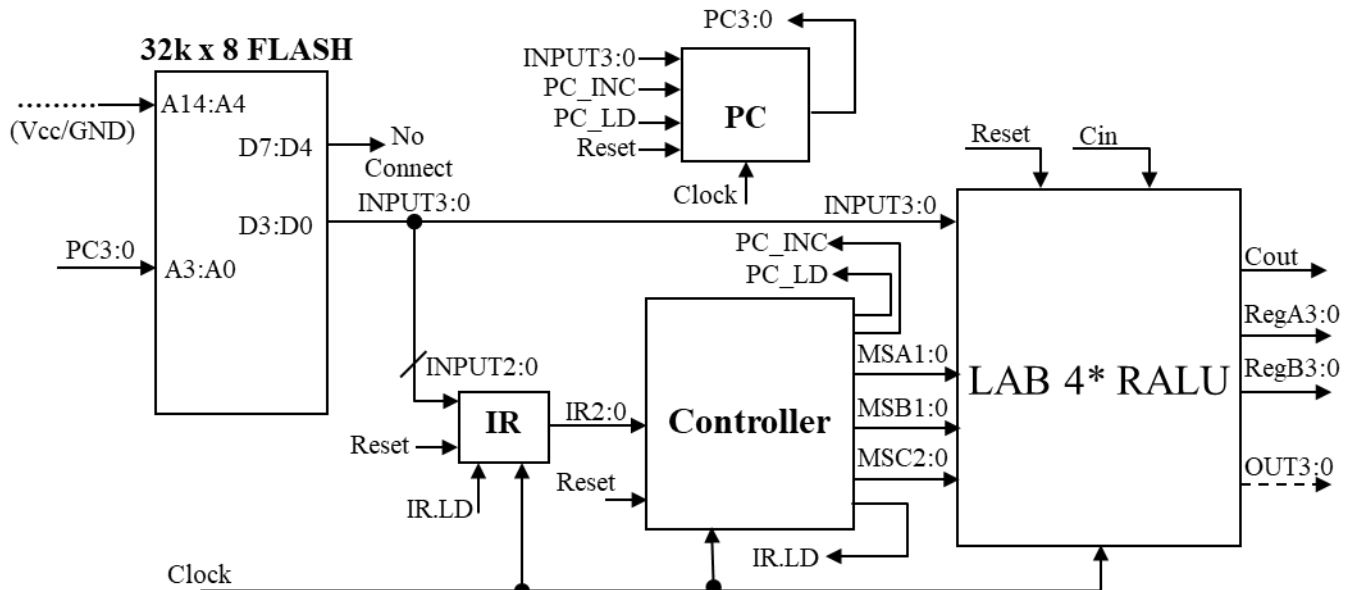

Figure 3. Block diagram of system hardware.
- As shown in Figure 3, a 32k × 8 EEPROM (or Flash) is added. The instructions and data will be stored in this EEPROM **starting in location \$6B70**. (See Part 2 Pre-Lab Question 2.)
- A program counter (PC) is added. PC is a 4-bit up-counter with a synchronous count enable signal (PC_INC). If PC_INC is TRUE, the counter will increment by 1 at the next active clock transition. If PC_INC is FALSE, the counter holds its current value. The count after 1111₂ is 0000₂. Another synchronous signal, PC_LD, is used to load the counter from the INPUT bus. The 74'161 (with **asynchronous** clear) is ideally suited to function as a 4-bit PC. (The 74'163 is identical except that it has a **synchronous** clear.)